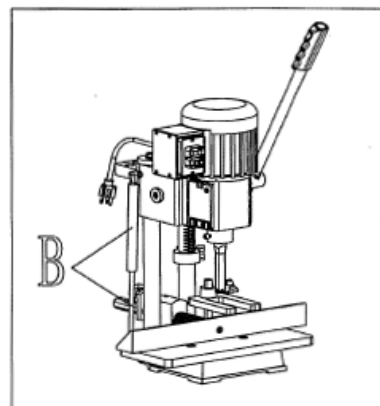

Fig. 5
Fig. 5 illustrates the gas spring (B) assembled to the machine. The gas spring (B) keeps the head in the up position.